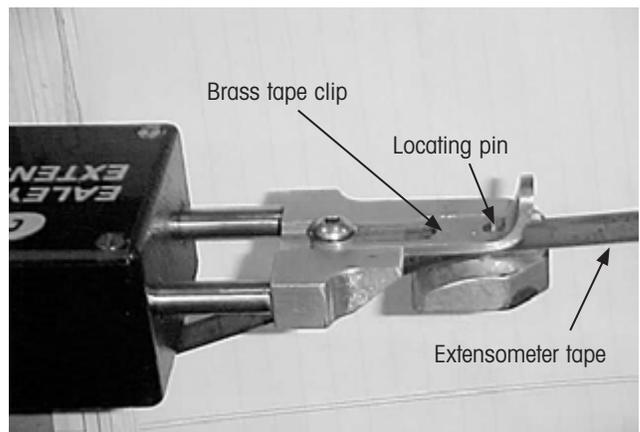

Figure 14: Tape locking details
5. Slide the brass tape clip (Figure 14) over the locating pin to lock the tape to the extensometer, preventing it from slipping off the locating pin while it is being tensioned in the following steps.